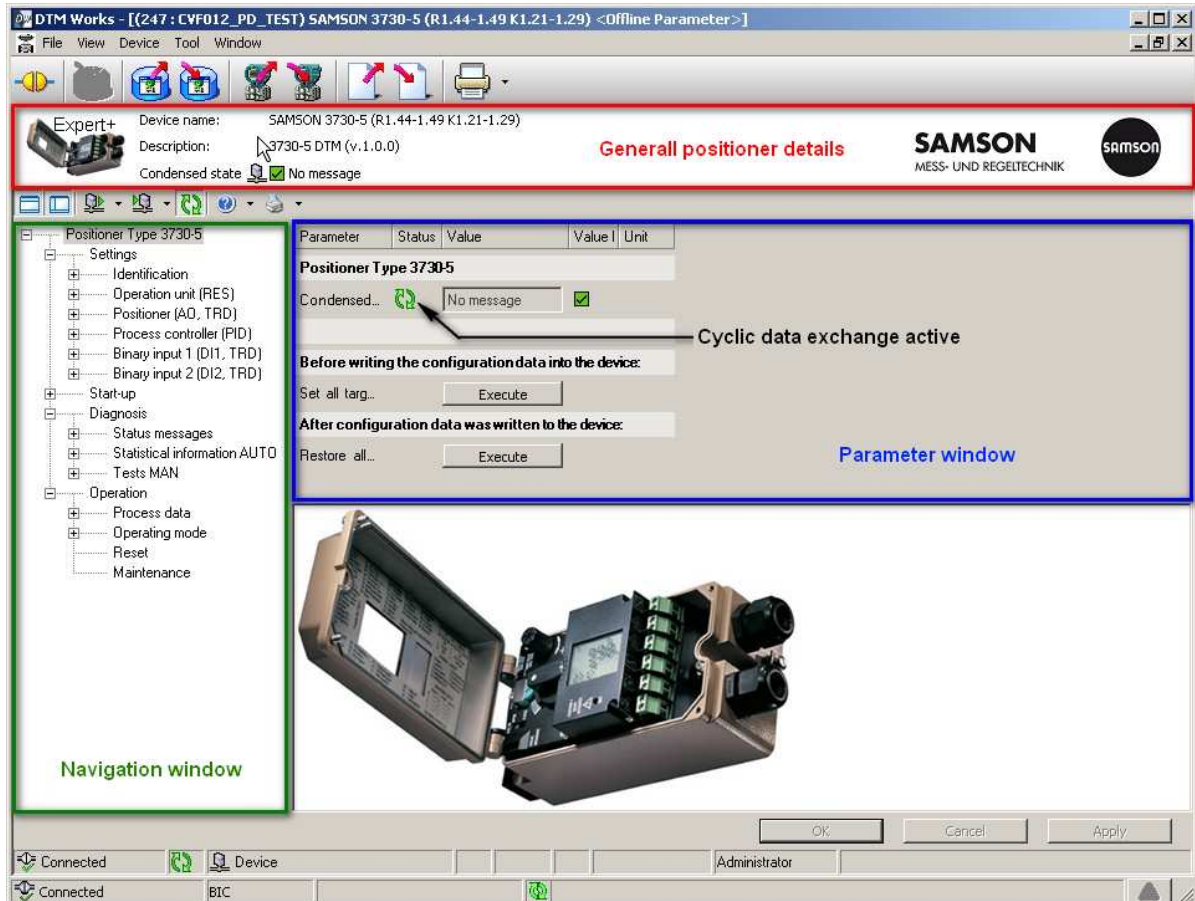

Fig. 6: Operator interface of the positioner DTM
The structure of the positioner DTM is subdivided as follows (Fig. 6):
*When the cyclic data readout is active, this icon appears next to parameters in the Status field (Fig. 6). **Data are only read!***